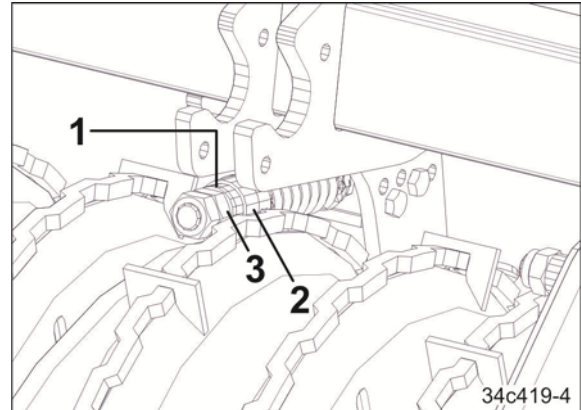

Fig. 165
2. Insert 1 to 2 spacer discs (Fig. 165/1) between the socket (Fig. 165/2) and hexagon nut (Fig. 165/3).